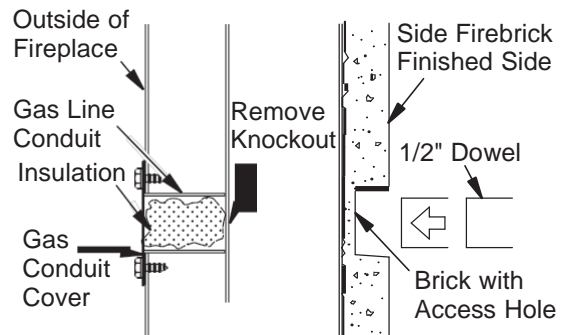

Figure 16 - Gas Line Access
1. Remove knockout indentation on refractory or firebrick wall located above refractory hearth floor. Knockout indentation must be firmly tapped with any solid object such as a 1/2" dowel until it is released. Remove fragmented portions of refractory (see Figure 16).